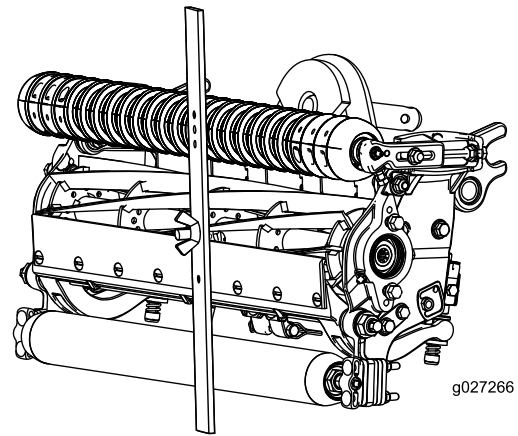

Figure 17
3. Hook the bolt head on the cutting edge of the bedknife and rest the rear end of the bar on the rear roller (Figure 17).
4. Rotate the adjusting bolt until the front roller contacts the gauge bar (Figure 17). Adjust both ends of roller until the entire roller is parallel to the bedknife.